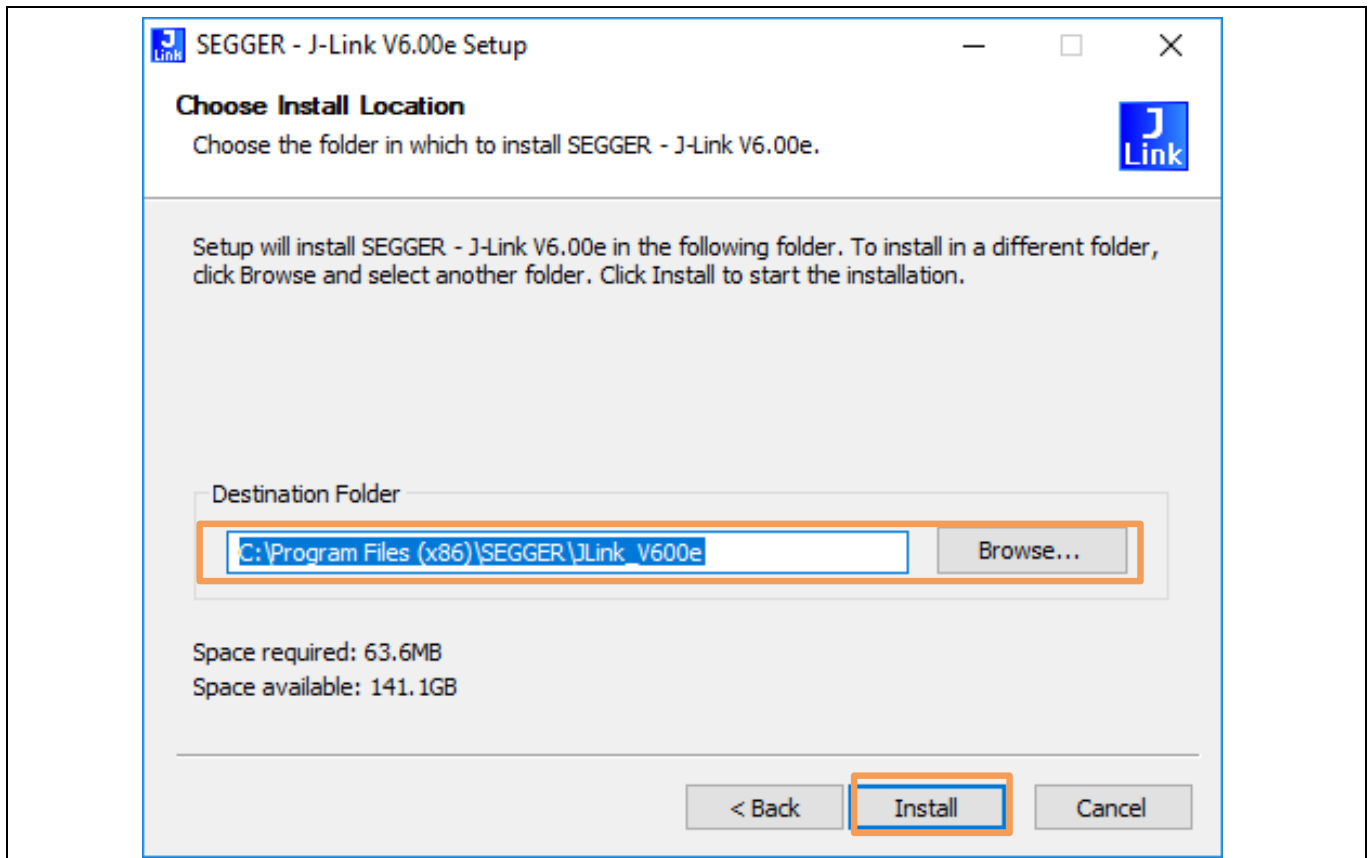

Figure 27 SEGGER JLINK Drivers – Confirm Installation
- Then the installer will prompt for the installation folder. Accept the default one or use another directory by selecting the “Browse” button as shown in orange color box of Figure 27. Click “Next” button to continue with the installation.